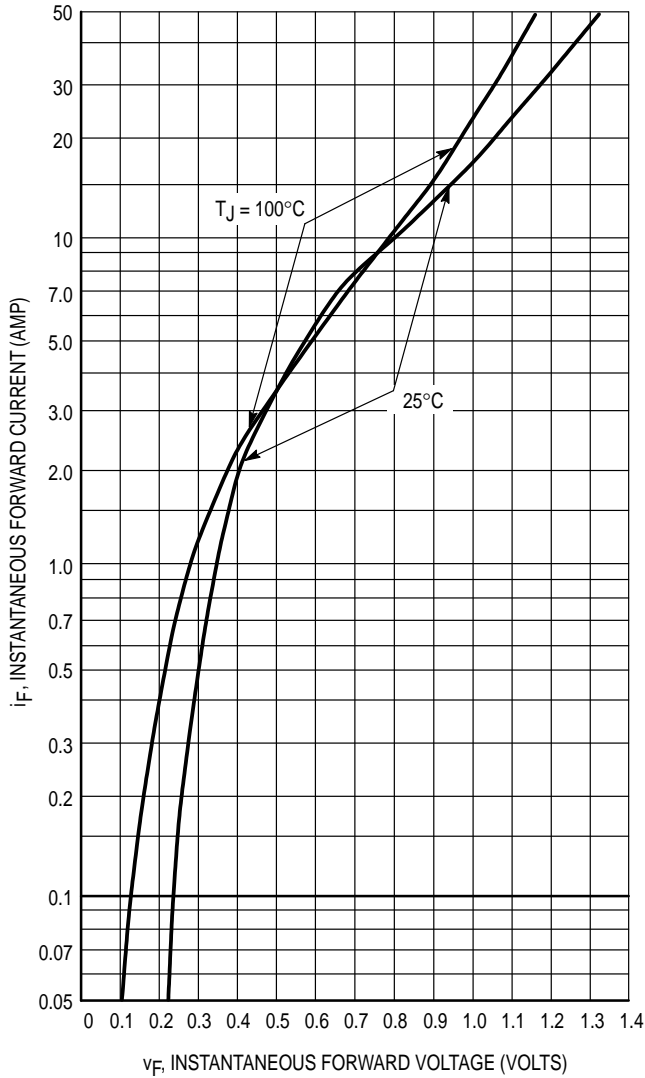

Figure 7. Typical Forward Voltage
**Values given are for the 1N5821. Power is slightly lower for the 1N5820 because of its lower forward voltage, and higher for the 1N5822. Variations will be similar for the MBR-prefix devices, using P_{F(AV)} from Figure 7.